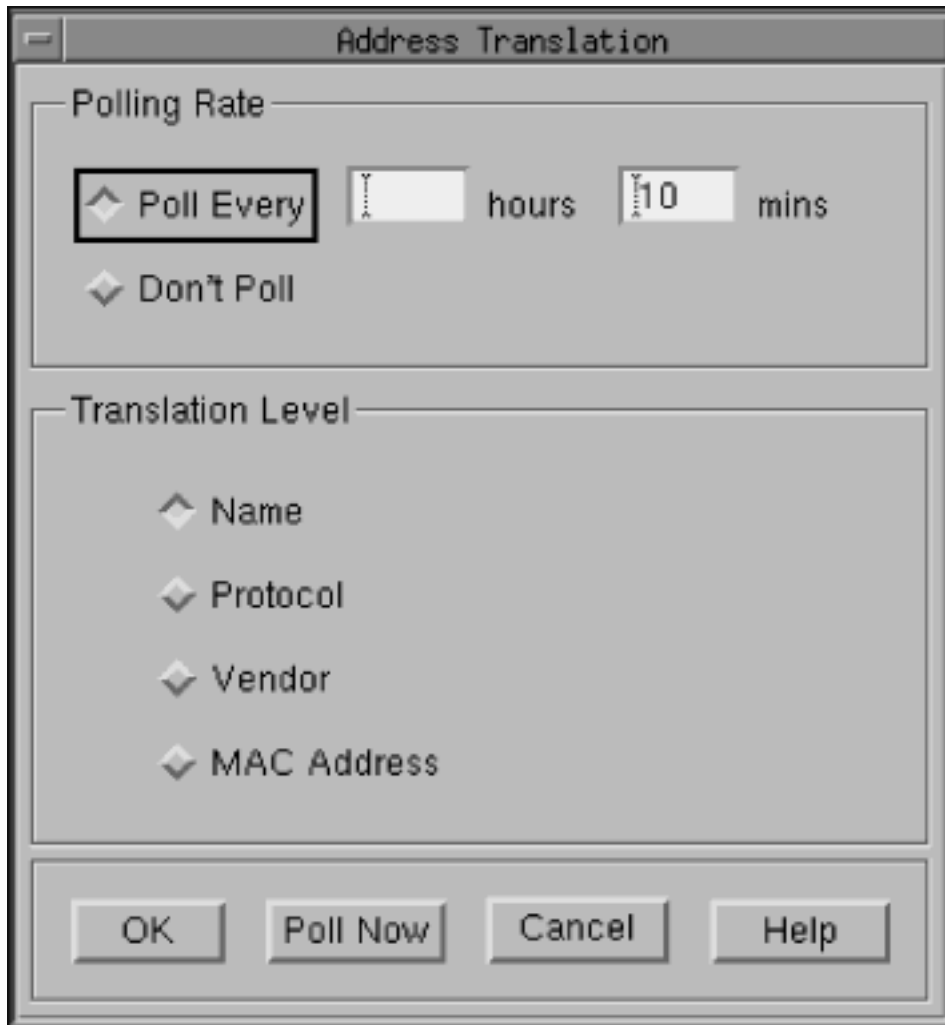

Figure 17. Address Translation Dialog Box
1. Select **Address Translation** from the Configure menu to open the Address Translation dialog box, shown in Figure 17 on page 44.